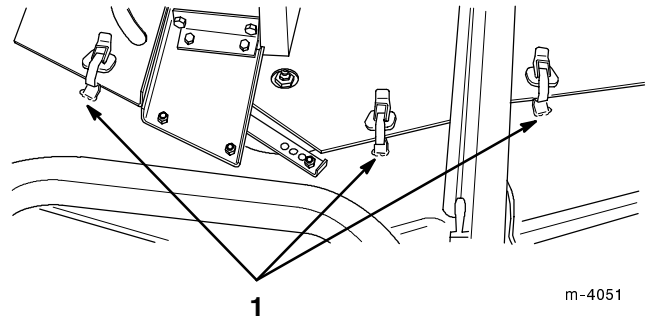

Figure 22
- Release the latches holding the mower cover to the top of the cutting unit and remove the mower cover (Fig. 22).
8. Install covers onto the mower and secure latches (Fig. 22).